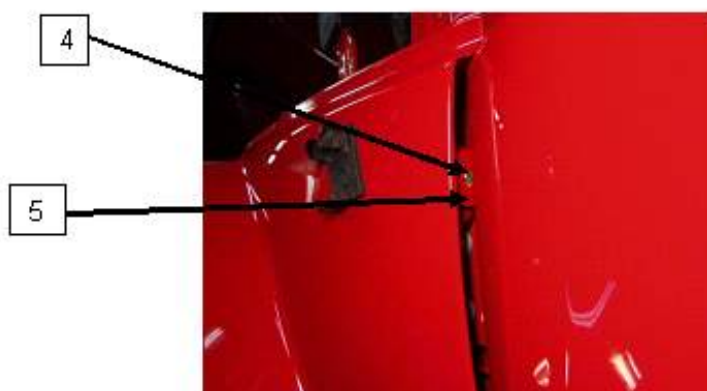

Figure 41 Fender Extension Centering Bolt
3. Remove the centering bolt (Item 4, Figure 41) from bracket (Item 5, Figure 41).
3. Install centering bolt (Item 4, Figure 41) into bracket (Item 5, Figure 41).